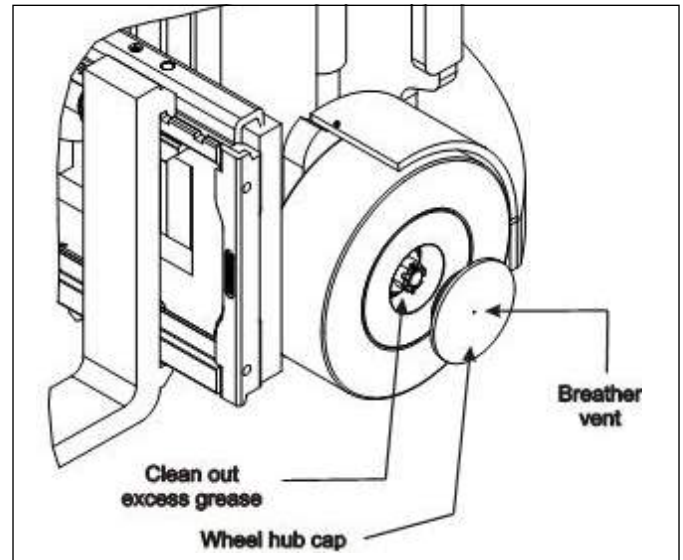

Figure 2-17: Front Steer Wheel Bearings
6. Remove the wheel hub cap - pry off using flat blade screwdriver. See Figure 2-17 on page 2-12